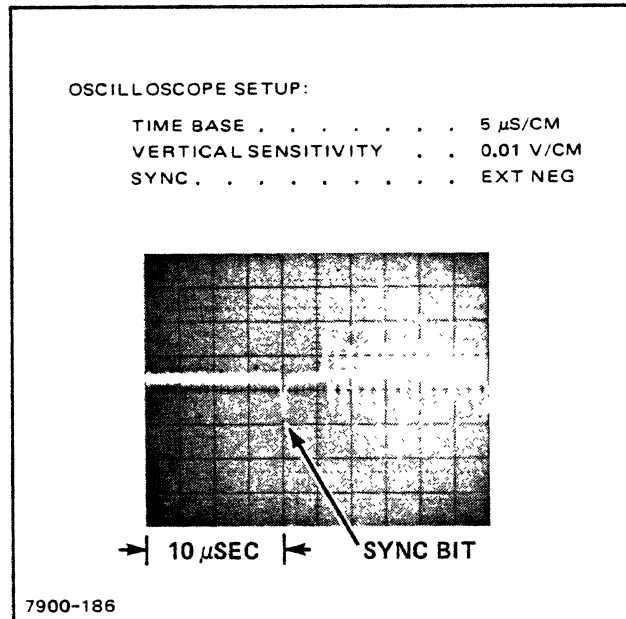

Figure 4. Data Pulses
- F. Observe the waveform in Figure 4 and ensure that the first data pulse is present within ± 6 microseconds of the data pulse in step "D".
- D. Adjust the sector position variable resistor (A8R2) so that the first data pulse is 20 microseconds from the leading edge of the index pulse (beginning of sweep) as shown in Figure 4.